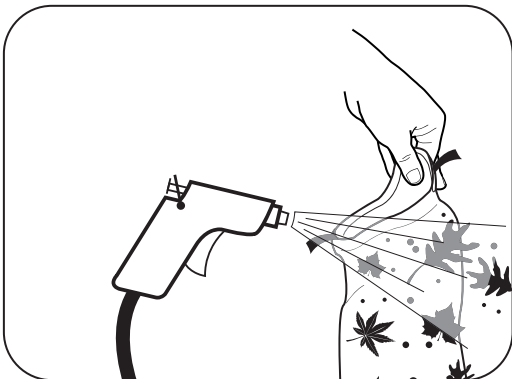

Figure 16. Rinse
5. Using a hose with clean water, rinse the filter bag to remove all debris (Figure 16).